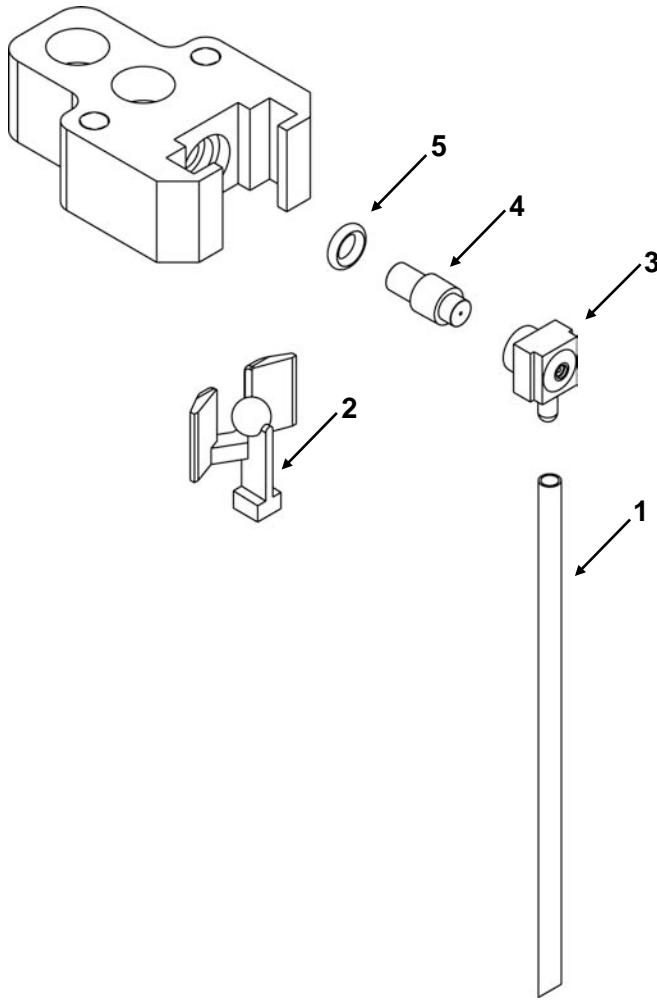

Figure 3-1
2. Disassemble the atomizer jet assembly following the order indicated in Figure 3-1. The retainer that holds the parts of the jet together can be difficult to remove. If necessary, use pliers to pull down on the tab with a *gentle* rocking motion. The jet assembly incorporates one small O-ring. Set it in a safe place.